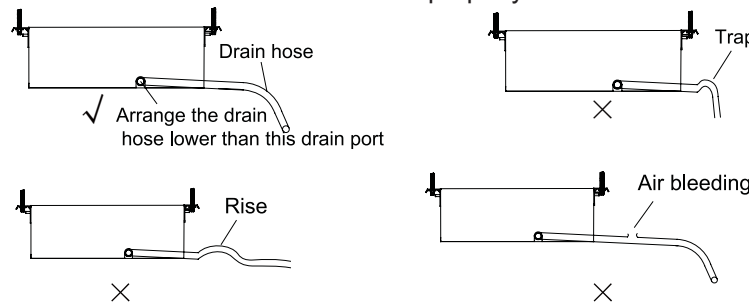

Figure 3-1-8
- (1). Install the drain hose with downward gradient (1/50 to 1/100) and no risers or traps are used for the hose. (Figure 3-1-8)
- (2). Be sure there is no crack or leak on the drain hose to avoid the formation of air pocket. (Figure 3-1-8)